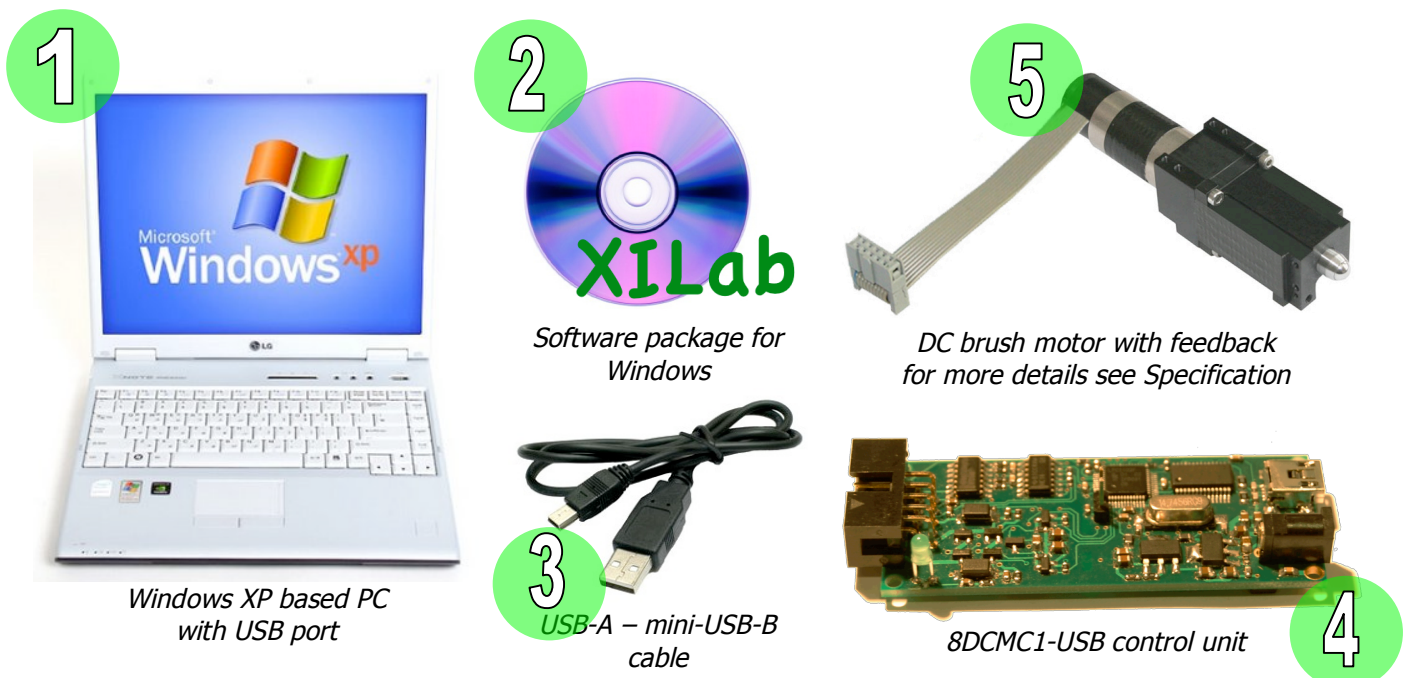
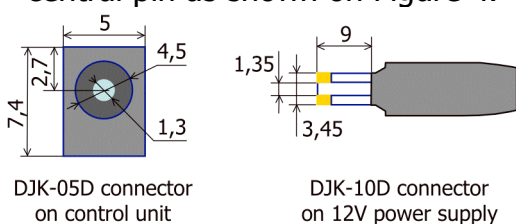

Figure 1. System requirements
Figure 4. 12V power supply connector
4. Depends on delivery set appearance of 8DCMC1-USB control unit can be different. See on Figure 1 illustration 4 8DCMC1-USB control unit without aluminium case.
6. Use 12V stabilized DC power supply (see Figure 1 illustration 6) with 6-12V DC motors always. Use it with 5V DC motors too if USB hub has no enough current. Power supply rated current must be 500-1000 mA. Power supply voltage must never exceed 14V. 8DCMC1-USB control unit can be damaged if higher voltage is applied. Check power supply connector. It must be DJK10D type with 1.3 mm positive central pin as shown on Figure 4.
Connect DC brush motor with feedback to 8DCMC1-USB control unit (see units on Figure 1). Connect 12V stabilized DC power supply to 8DCMC1-USB (optional). Connect 8DCMC1-USB to PC using USB-A – mini-USB-B cable.